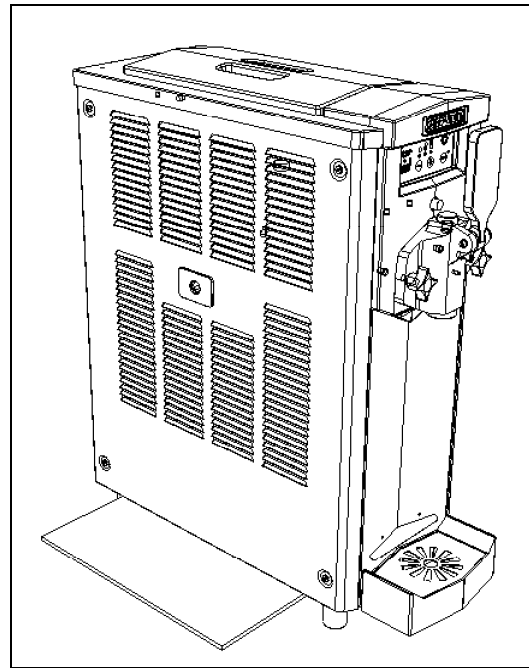

Fig. 35
- Remove the filter from its seat under the machine (fig.35) and clean it by washing it with water.